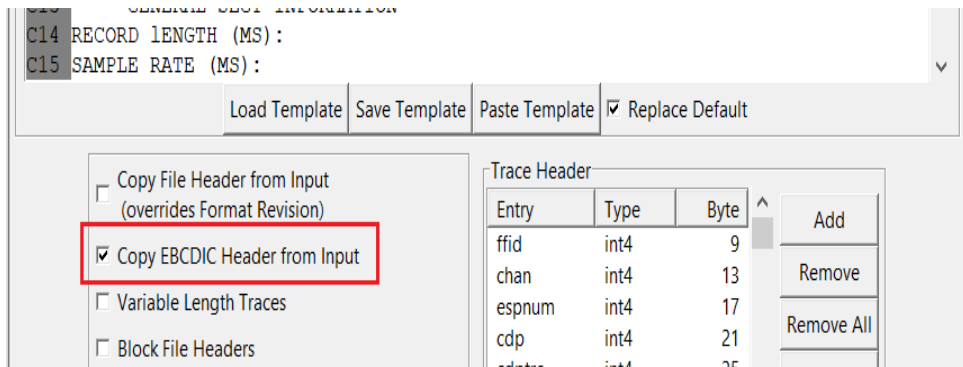

Figure 5-2 Copy EBCDIC Header from input
2. If required, edit or replace the Textural File Header (EBCDIC) for the output SEGY: use copy from the input when the datain file is SEGY. Check the box next to **Copy EBCDIC Header from Input** on the SEGY Output option panel (Figure 5-2 below).